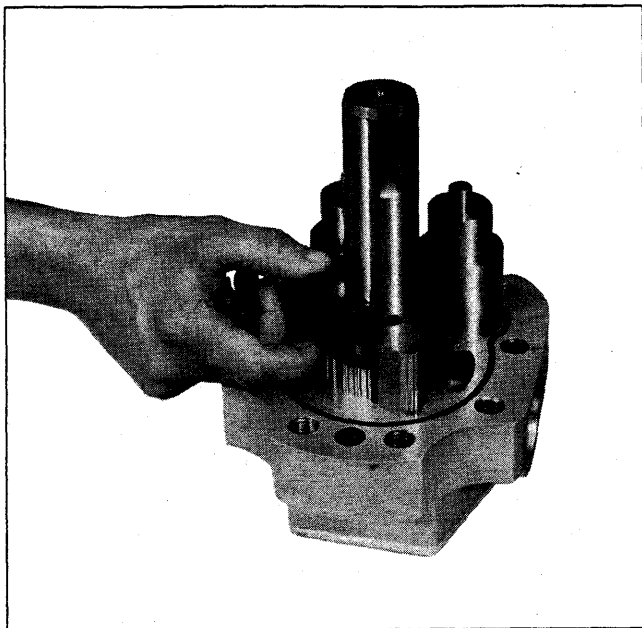

FIGURE 4
5.) Remove seal plates (Fig. 4).